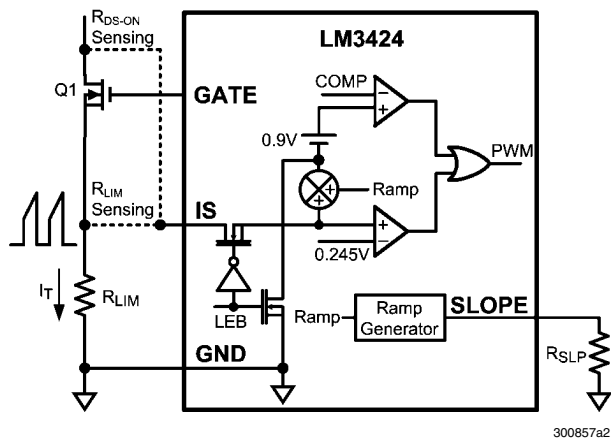

FIGURE 7. Current Sense / Current Limit Circuitry
The LM3424 achieves peak current mode control using a comparator that monitors the main MosFET (Q1) transistor current, comparing it with the COMP pin voltage as shown in Figure 7. Further, it incorporates a cycle-by-cycle over-current protection function. Current limit is accomplished by a redundant internal current sense comparator. If the voltage at the current sense comparator input (IS) exceeds 245 mV (typical), the on cycle is immediately terminated. The IS input pin has an internal N-channel MosFET which pulls it down at the conclusion of every cycle. The discharge device remains on an additional 240 ns (typical) after the beginning of a new cycle to blank the leading edge spike on the current sense signal. The leading edge blanking (LEB) determines the minimum achievable on-time ( $t_{ON-MIN}$ ).
Looking at Figure 7, the positive PWM comparator input is the IS voltage, a mirror of  $I_L$  during  $t_{ON}$ , plus a typical 900 mV offset. The negative input of the PWM comparator is the COMP pin which is proportional to  $I_C$ , the threshold at which the main MosFET (Q1) is turned off.
The LM3424 mitigates current mode instability by implementing an artificial ramp (commonly called slope compensation) which is summed with the sensed MosFET current at the IS pin as shown in Figure 7. This combined signal is compared to the COMP pin to generate the PWM signal. An increase in the ramp that is added to the sense voltage will increase the maximum achievable duty cycle. It should be noted that as the artificial ramp is increased more and more, the control method approaches standard voltage mode control and the benefits of current mode control are reduced.